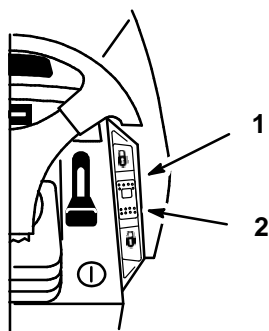

Figure 13
The cruise control is optional on some models. A 3 position: Lock-Set (spring loaded), On and Off-Unlock dash switch (Fig. 13) controls the engagement. Cruise control maintains the traction control position without foot pressure. Cruise control is intended for operation in the forward direction only. Do not use cruise control in reverse.
1. Begin driving tractor: Refer to Driving Forward or Backward, Page 14. While holding your foot steady on the traction control, push the cruise control switch (Fig. 13) to the “LOCK”-“SET” position.
1. While holding your foot steady on the traction control, move the cruise control switch (Fig. 13) to the “UNLOCK”-“OFF” position.